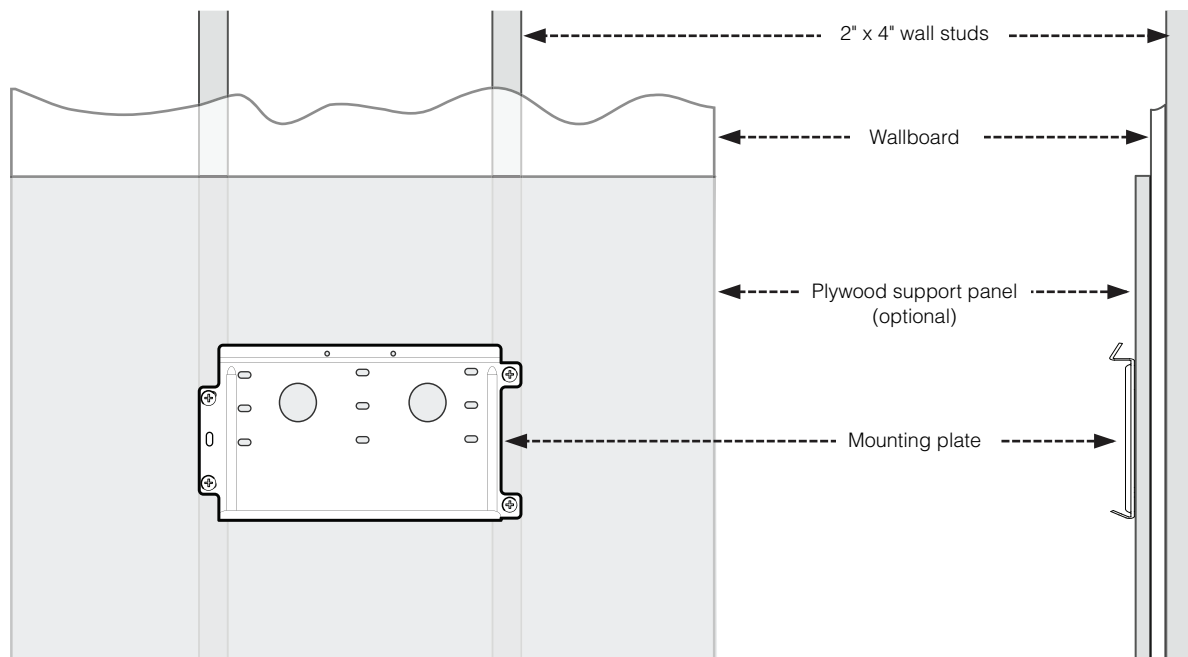

Figure 2-5 Mounting plate centered on wall studs
3. Using a level, secure the first mounting bracket to the wall. Ensure the mounting plate is centered on the wall studs, as shown in Figure 2-5. Use recommended anchoring hardware to secure the plate (see Table 2-1).
Note: The mounting plates are designed to interlock (as shown in Figure 2-5, so that multiple plates can be installed without additional measuring or leveling.